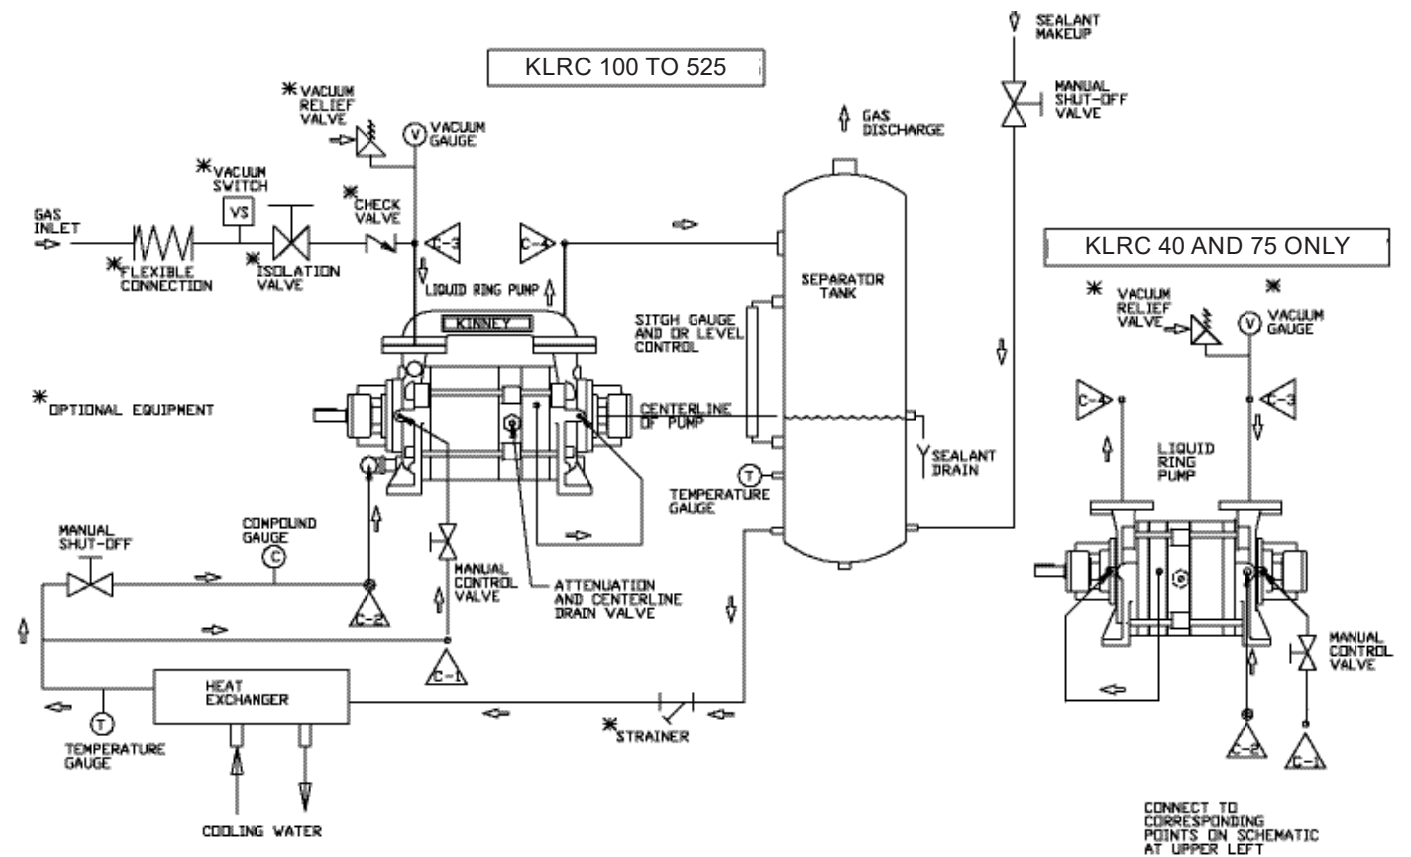

Figure 5. Piping Schematic Full Sealant Recovery System, Without Circulating Pump
- Full Recovery without Circulating (Fig. 5).